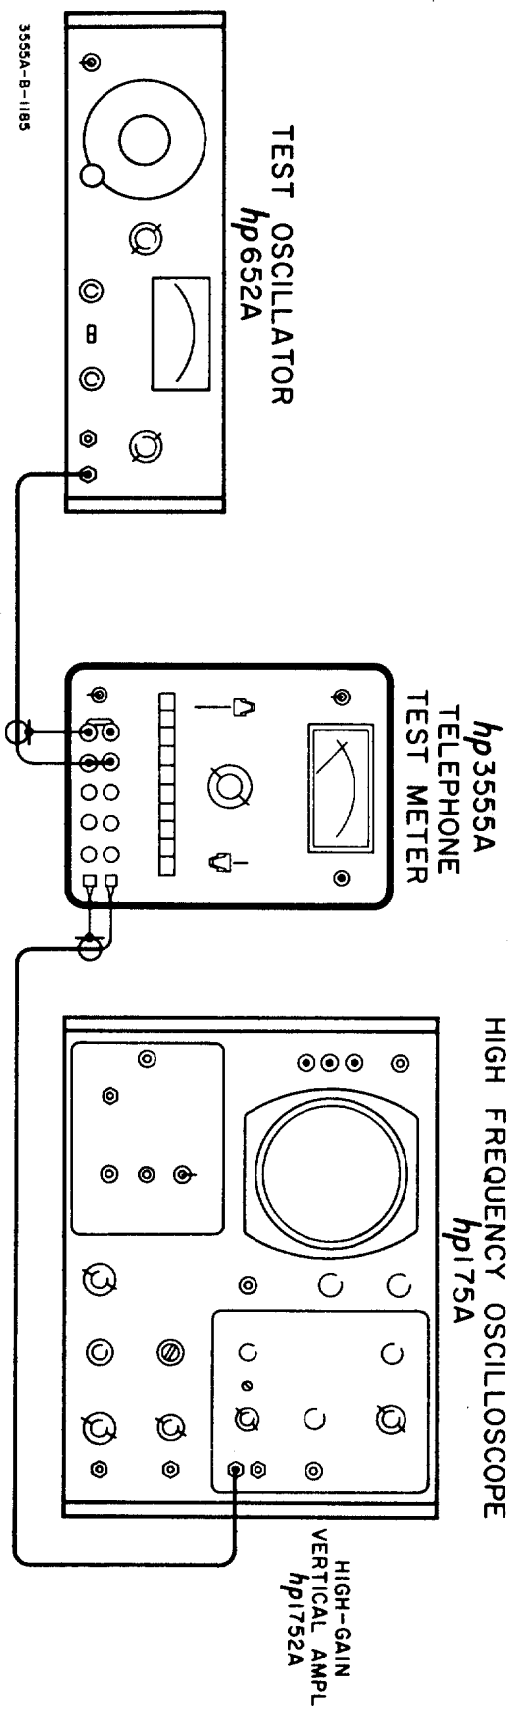

Figure 5-5. Common Mode Adjust Test Setup
- a. Connect the equipment as shown in Figure 5-5. Set the 3555A controls as follows: